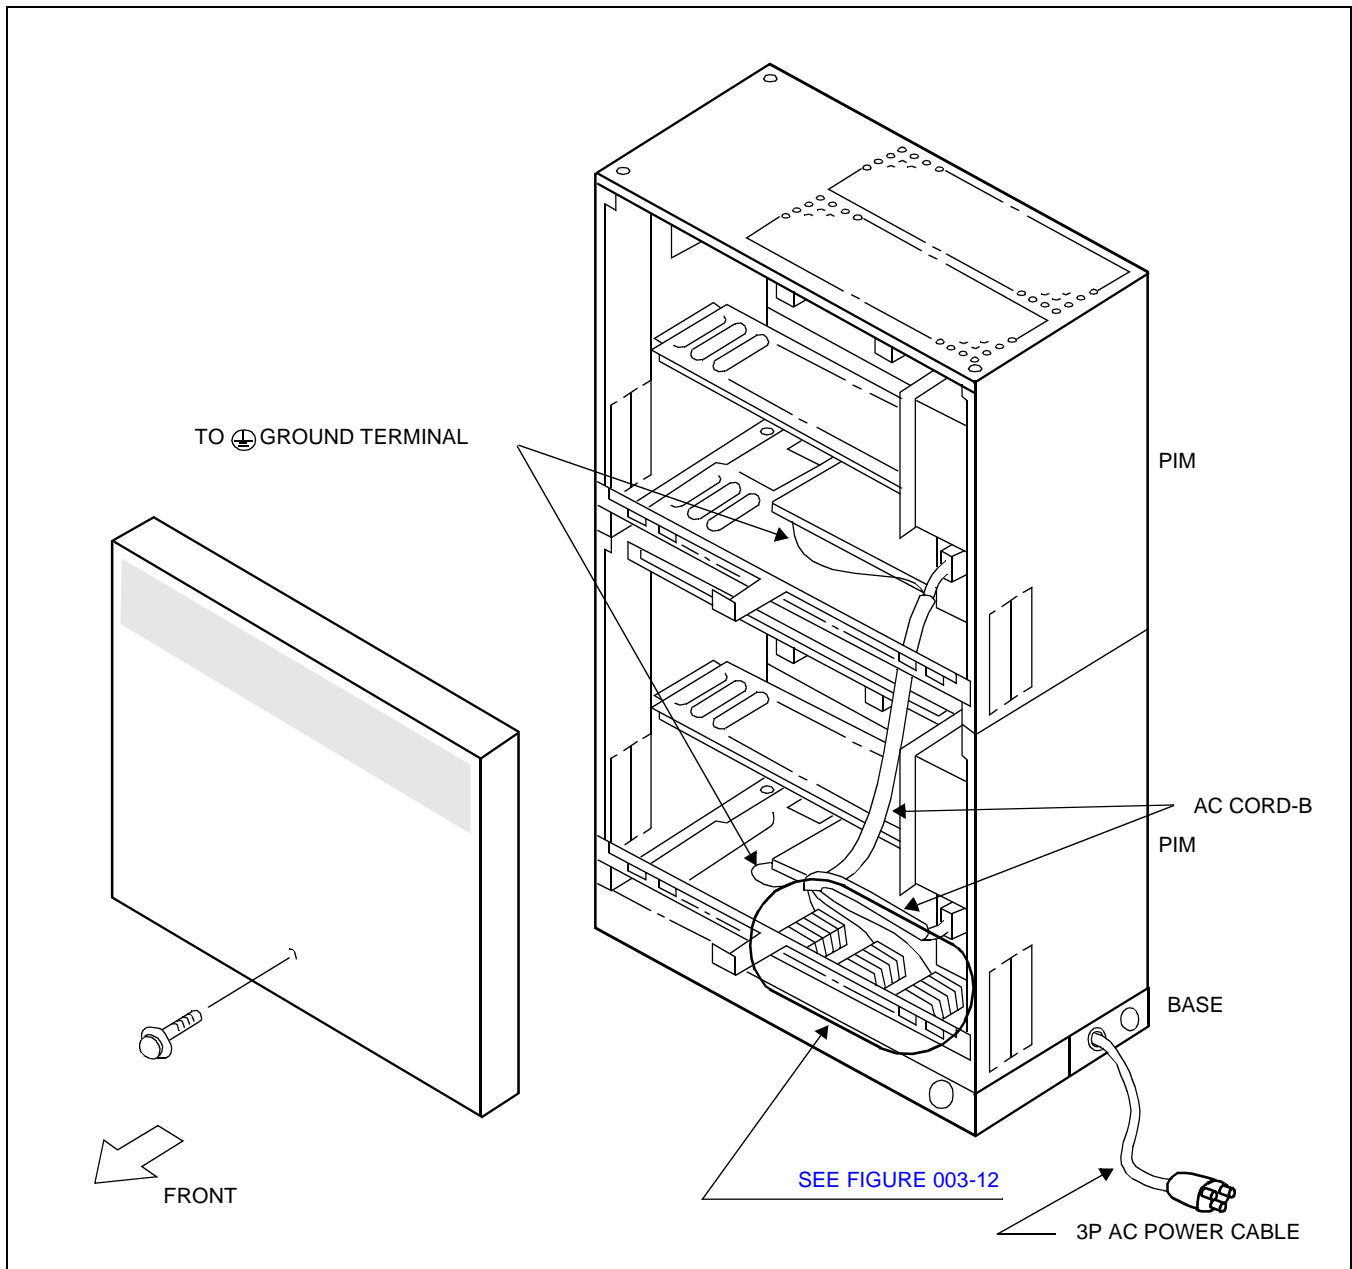
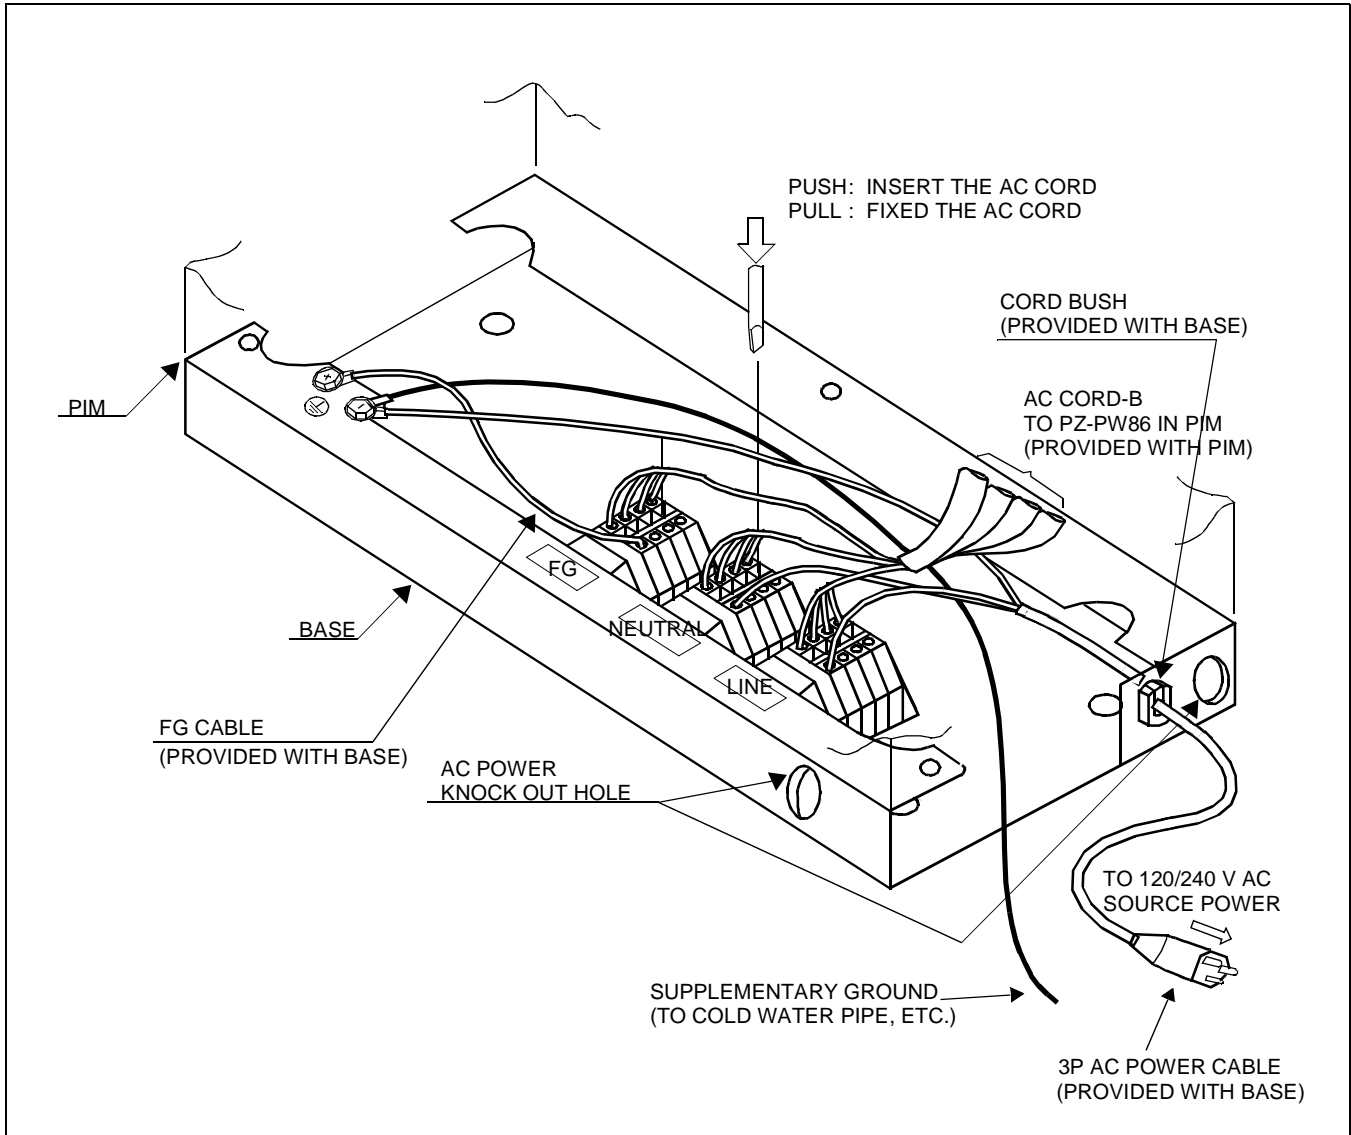
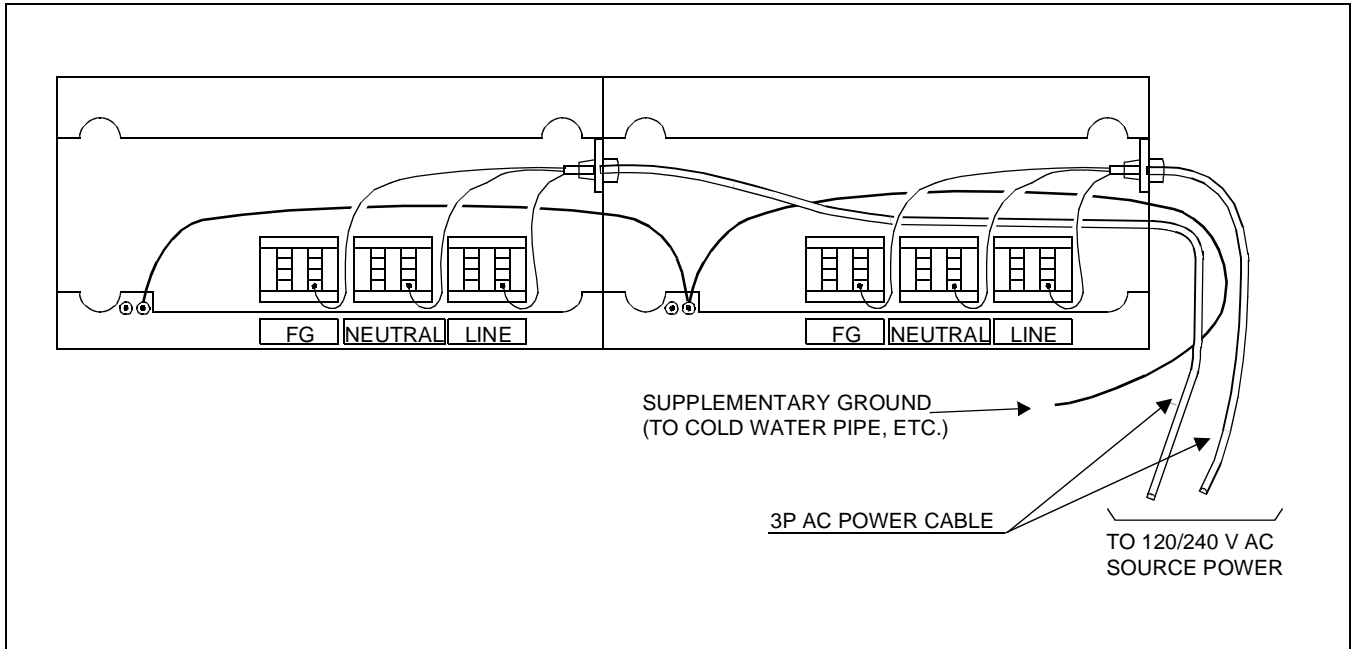

Figure 003-11 AC CORD-B and AC Power Cable Wiring
Figure 003-12 Screwing the AC CORD-B to the Terminals
Figure 003-13 AC Power Cable Wiring for Two-Frame Configuration
(10) AC CORD-B and AC Power Cable Wiring
- (a) The AC CORD-B and the AC Power Cable Wiring to the FG, NEUTRAL and LINE terminals inside the BASE are shown in Figure 003-11 (for details of wiring to the terminals, see Figure 003-12).
- (b) Secure the AC CORD-B cables to the FG, NEUTRAL and LINE terminals as shown in Figure 003-12. The 3P AC Power Cable and the FG Cable are pre-installed with the BASE.
- (c) When the system is a two-frame configuration, the 3P AC Power Cable of the left side frame can go through the BASE of the right side frame, as shown in Figure 003-12.
- (7) Connect the AC CORD-B to the terminals inside the BASE in the same manner as for the Floor Standing Installation (Refer to Figure 003-11 through Figure 003-13).